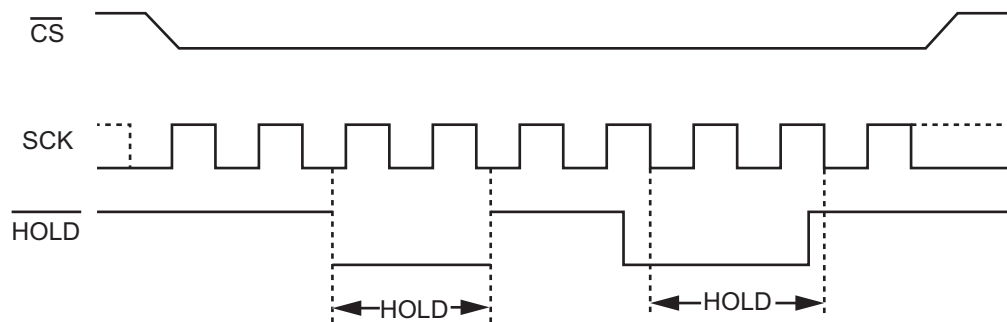

Figure 6-1. Hold Condition Activation
The Hold condition starts when the Hold (\overline{HOLD}) signal is driven Low at the same time as Serial Clock (SCK) already being Low (as shown in Figure 6-1).
The Hold condition ends when the Hold (\overline{HOLD}) signal is driven High at the same time as Serial Clock (C) already being Low. Figure 6-1 also shows what happens if the rising and falling edges are not timed to coincide with Serial Clock (SCK) being Low.